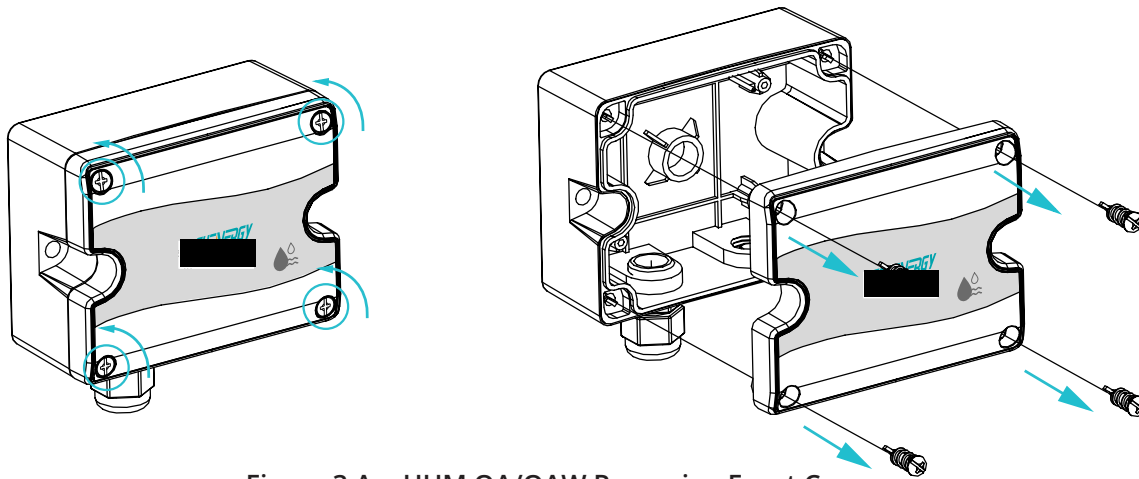

Figure 3 AcuHUM OA/OAW Removing Front Cover
**NOTE:** Exercise caution to not over-rotate the screws, which could damage the enclosure. Refer to Figure 3 for details.